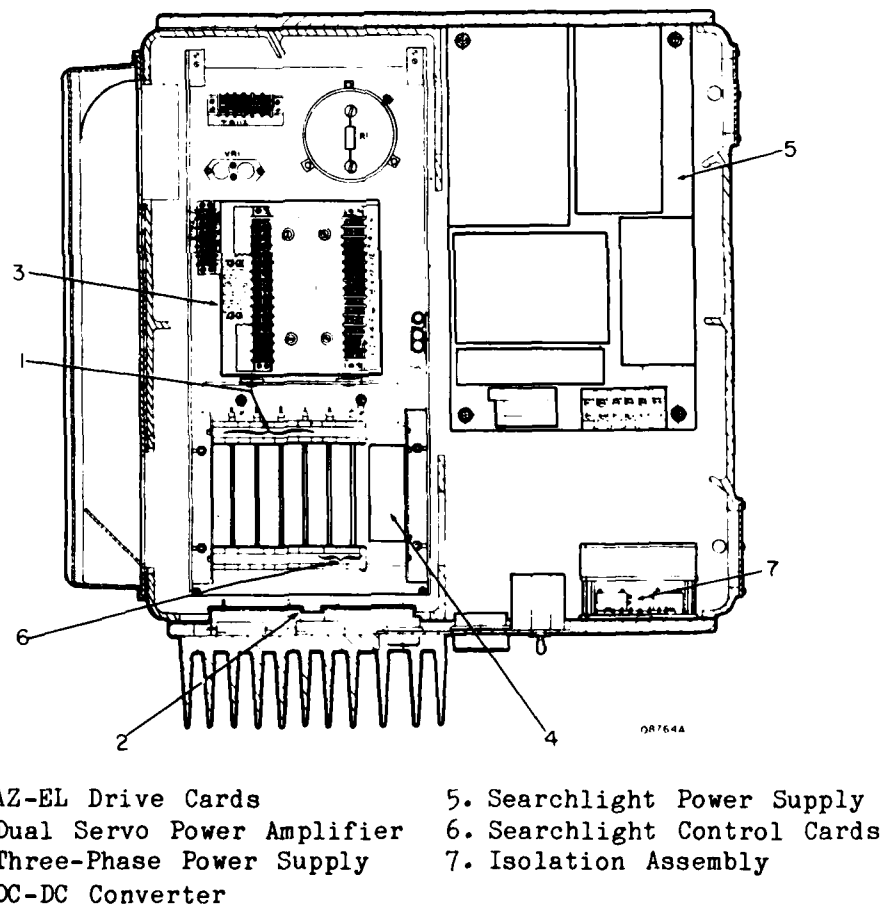

Figure 4.2. Electronics Base Configuration
4.3.2. AZ-EL drive electronics. The drive electronics for the positioner are located in the electronics base. This system consists of four electronic printed circuit boards (1, Figure 4.2), a dual servo power amp assembly (2) and a three-phase power supply (3) which provides motor drive power and stores solenoid power. A  $\pm 15V$ , dc to dc converter (4) provides voltages for the operational amplifiers (op-amps) located on the printed circuit cards. The two synchro transformers, two power amplifiers, four printed circuit boards and two torque motors form two feedback servo control loops whose position commands come from remote three wire transmitters.
4.3.3. Searchlight control electronics. The searchlight power supply (5, Figure 4.2), located in the electronics base provides power to ignite the searchlight. In addition, two printed circuit cards (6) control turn on/turn off of the searchlight, searchlight intensity, and provide a control signal to position the searchlight's infra-red filter. Control of the searchlight may be done at a control box (10, Figure 4.1) mounted on the positioner or the searchlight may be controlled from a remote location.
4.8.1. Power supply, control electronics (3, Figure 4.2). The dc power needed to drive the motors and the P.C. cards come from a three-phase power supply consisting of a three-phase transformer rated for 23V @19A, a three-phase rectifier assembly, and a filter capacitor. The secondary side of the transformer is grounded to the base at a single point which ties all other grounds in the system together. This "chassis" ground is provided on one of the output connectors to tie to the ship's ground, minimizing current flow through the hull and thus preventing premature oxidation of the aluminum castings used in the mount and base. Three-phase power is activated via the base mounted circuit breaker CB1 which trips for an overload current. The dc power supply output feeds the servo power amplifier mounted on the electronics base.
4.8.2. DC to DC converter (4, Figure 4.2). The dc power supply also provides power to the DC to DC converter, a well regulated, low ripple,  $\pm 15$  Volt supply used to power the op amps mounted on the PC cards.
4.9. Power Amplifier Assembly Description (2, Figure 4.2). The power amp assembly consists of two epoxy encapsulated modules attached to a large, finned heat sink which provides the necessary cooling. The modules contain all the pre-drive and thermal shutoff circuitry, as well as the output transistor in a bridge-type, push-pull configuration.
4.10. Isolation Assembly Description (7, Figure 4.2). The isolation assembly consists of two isolation transformers mounted in the electronics base. The purpose of the isolation assembly is to isolate the synchro reference signal from AC ground.